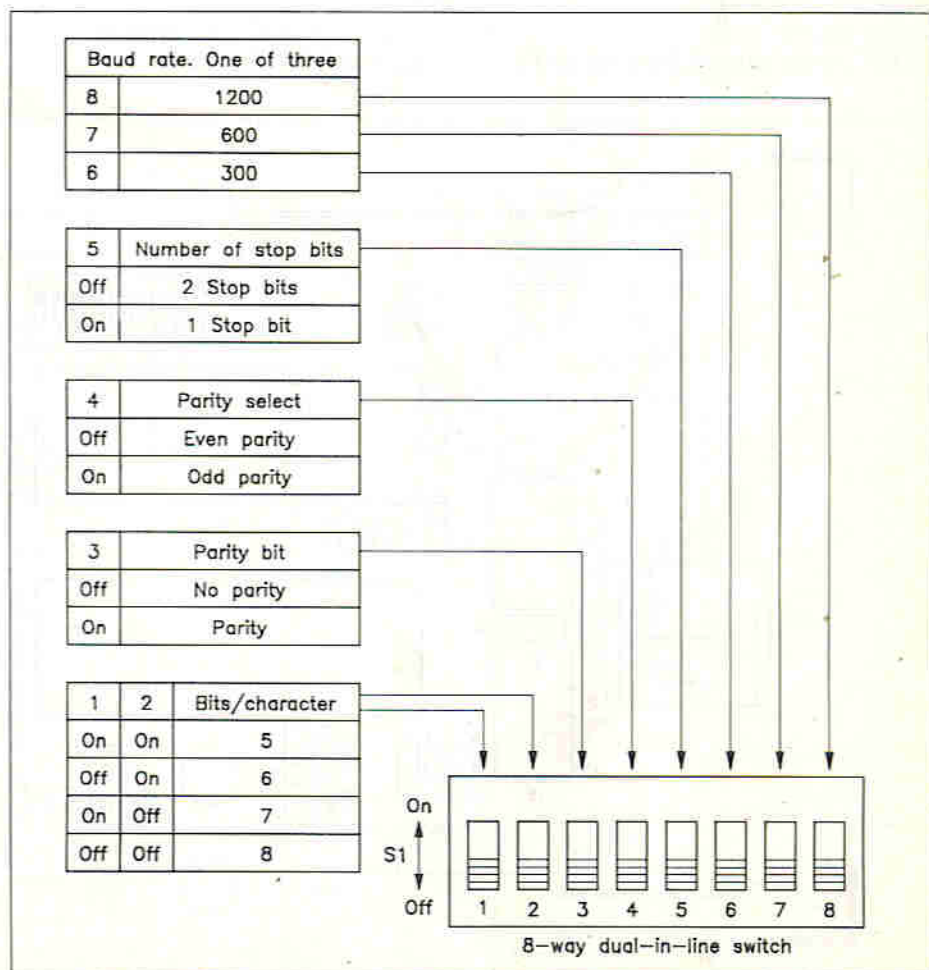

Figure 2. Computer Serial Format Select Switch S1.
17 and 40. Pin 17 is the receiver clock input and 40 is the transmitter clock, both frequencies must be 16 times the desired baud rate. The serial format of the UART on the computer side IC1 should not have to be adjusted very often since the format of the computer's serial I/O port is set by software. For this reason the set up switches need only be accessible from inside the unit and are mounted on the circuit board. The switch module S1 is an eight way Dual In Line (DIL) unit and the function of each section is shown in Figure 2. Sections 1 to 5 are connected to pins 35 to 39 of IC1 and the functions are as follows:
- S1 = 1 to 5 OFF, 6 ON, 7 and 8 OFF. (300 baud, No parity, 8 bits/character, 2 stop bits) see Figure 2.